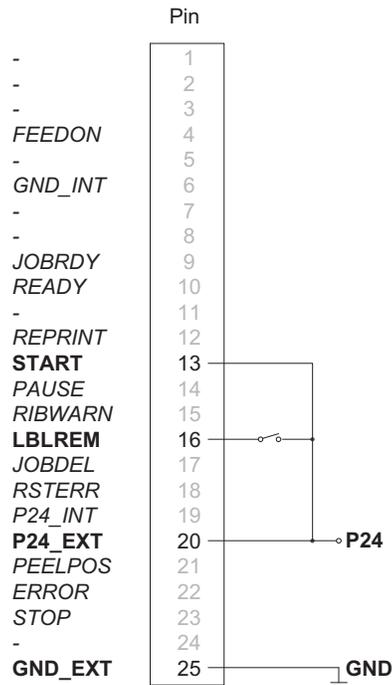
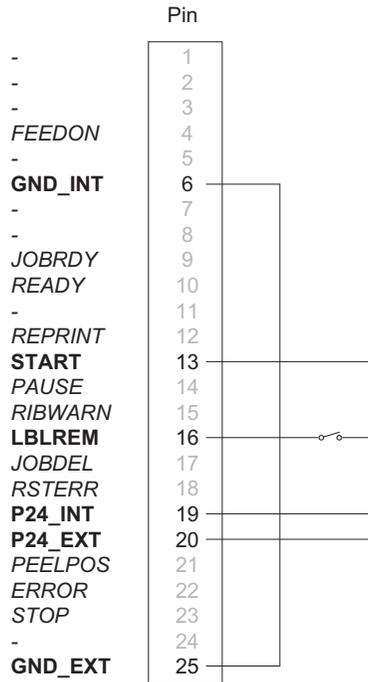

Figure 53: Operation with external voltage supply
Figure 54: Operation using the internal voltage
- External circuit as shown in Figure 53 / Figure 54